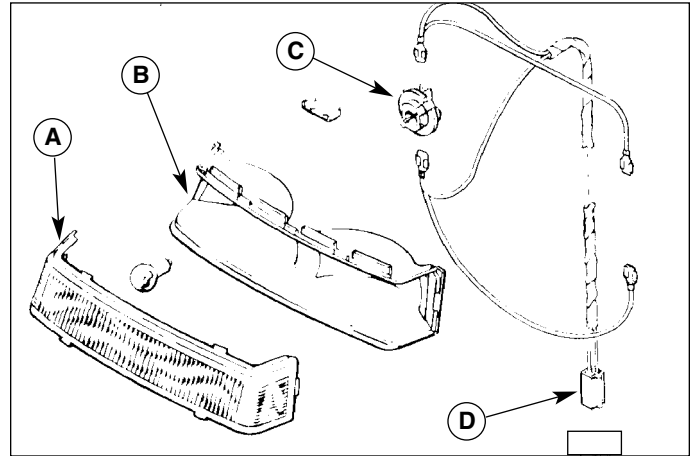

Figure D-3. Headlight Assembly
2. Disconnect the headlight wire harness at the two pin connector (D, Figure D-3) located near the oil fill tube on the right side of the engine. Thread the wire harness out through the engine lift bracket and remove it from the speed clip attaching the harness to the hood.